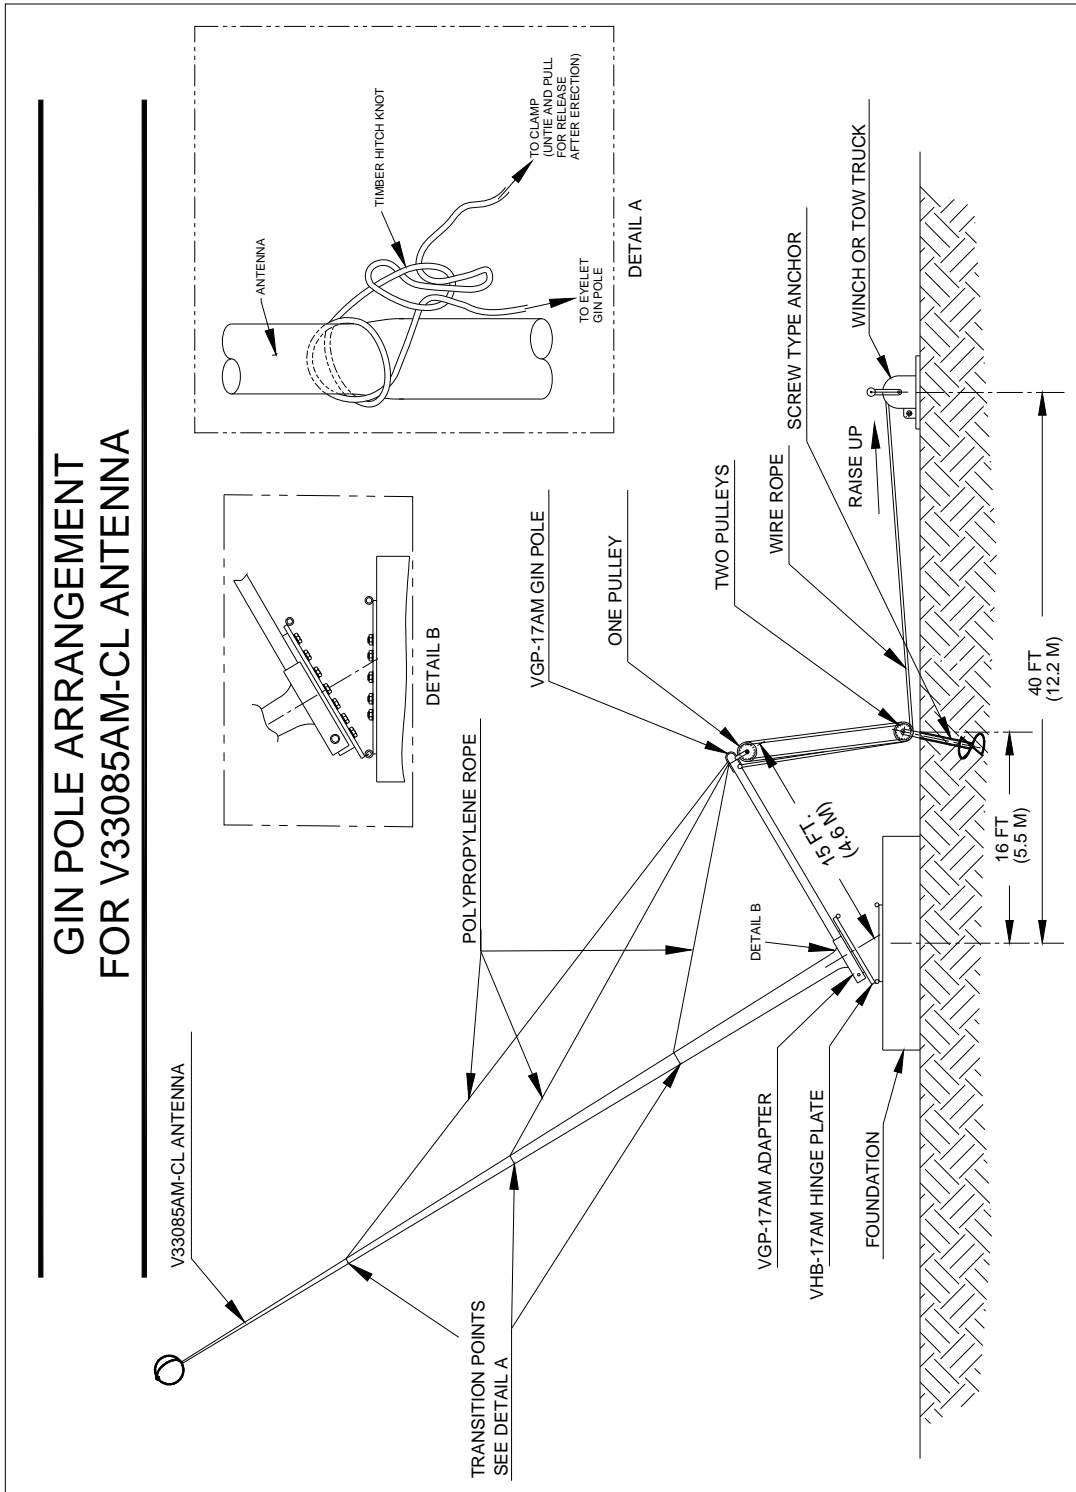

Figure 4-1 - Gin Pole Arrangement
The following steps should be followed while assembling the V33085AM-CL antenna (see Figure 4-1).
- (3) Support the base section (item 1 of Table 5-1) on two of the saw horses.
- (4) Align mounting holes in the plate with holes of the antenna flange and gin pole adapter, secure base section to the plate with hardware, fed through from underside. Make sure the feedpoint terminal of the antenna will end up in a convenient location for connecting the coupler.
- (5) Tie a rope (3/4" diameter polypropylene) to the eye of the gin pole, tie two other ropes the same type to the eye of the gin pole. Slide gin pole into the pipe attachment and secure with hardware provided.
- (6) Support the second section (item 2 of Table 5-1) on the other two saw horses so that the two sections lie in the same straight line.
- (7) Make sure the threads of the male ferrule on the base section and the threads of the female ferrule on the next section are clear of foreign material and free of burrs.
- (8) Assemble the second antenna section onto the base section and tighten to align the arrows at the joint using the strap wrench supplied (item 7 of Table 5-1). Secure two sections by using the hex lock screws supplied. Seal the hex screws with silicone sealant (item 8 of Table 5-1).
- (9) Assemble the third section (item 3 of Table 5-1) to the second section by repeating steps 6 to 8.
- (10) Assemble the fourth and fifth sections (items 4 and 5 of Table 5-1) by repeating steps 6 to 8.
- (11) After all sections are assembled, assemble the Valcosphere and Top-Hat assembly (if applicable) to the top of the fifth section with adapter provided.
- (12) The antenna now is ready to raise to its final position.
- (13) Tie the three ropes (from gin pole eye) to the first three transition points on antenna (see Figure 4-1). A timber hitch knot is recommended.
- (14) Erect antenna by applying a gradual and constant pull on the rope referred to as the "Pulling Force" (a winch or vehicle is recommended).
- (15) Once the antenna is in the vertical position, insert retainer pin back into hinge plate, secure with tension pin. Use bolts (supplied) to secure upper and lower plates of the hinge plate together.
- (16) Remove the gin pole. Electrical connections can now be made.